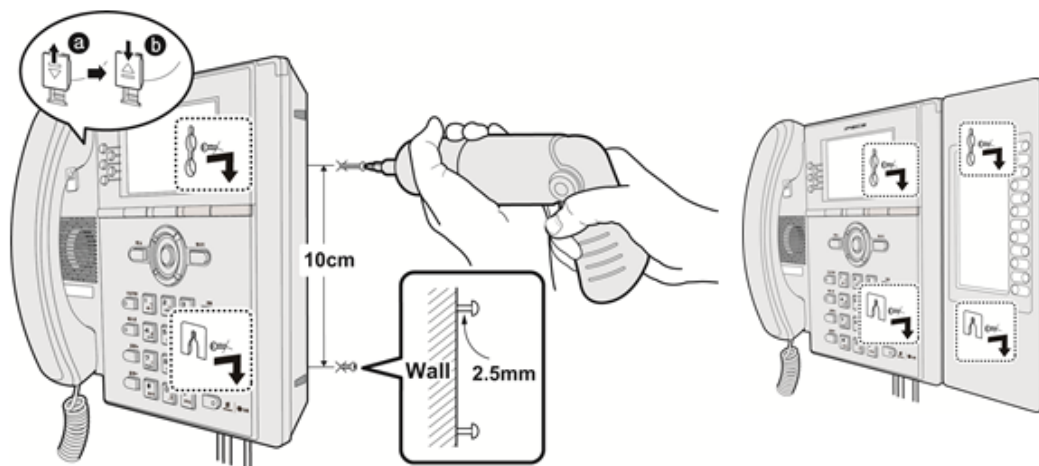

Figure 7.1.3-1 LIP-8000/8000E Series Wall Mount Installation
1. Using Figure 7.1.3-1 to mark and drill two (2) 7mm holes for plastic wall anchors.
2. Insert the two (2) anchors into the holes, and insert and tighten two (2) screws leaving about 2.5 mm (1/8-inch) exposed. If installing an LIP phone with a Console, also drill anchor holes, insert anchors, and tighten screws for the Console Wall Mount slots.